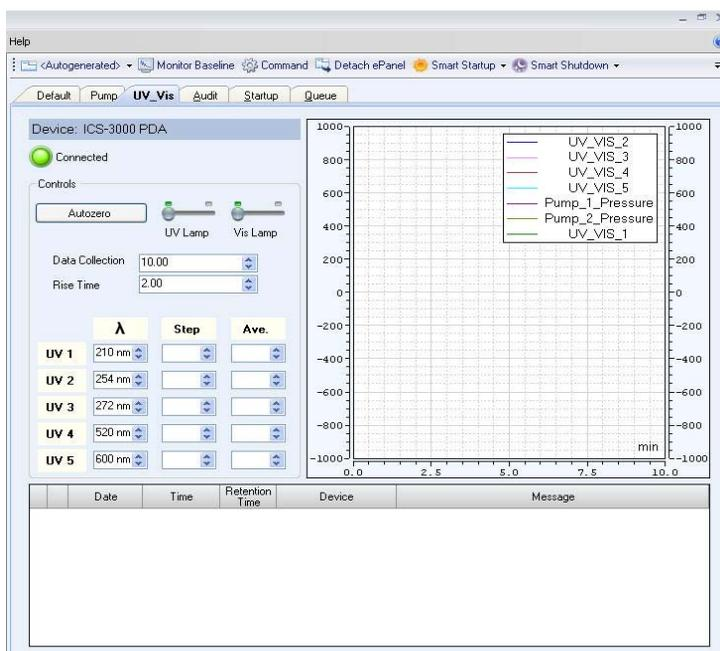
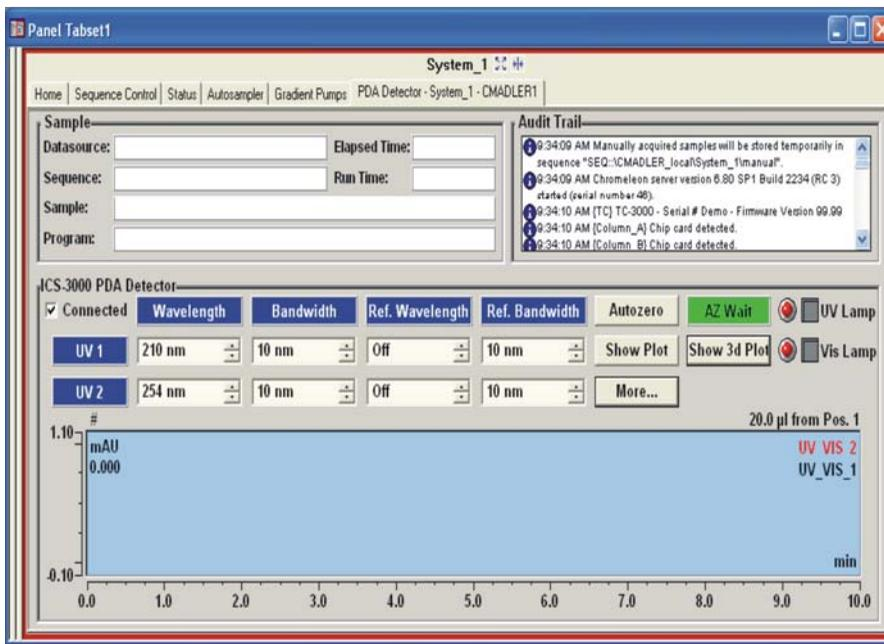

Figure 3-1. Example Dionex PDA ePanel in Chromeleon 7
Figure 3-2. Example Dionex PDA Control Panel in Chromeleon 6.8
- d. To display the detector ePanel, click the **UV_Vis** tab on the ePanel Set (see Figure 3-1).
- c. To display the Dionex PDA Control panel, select the **Dionex PDA** tab on the panel tabset (see Figure 3-1).
To turn on the lamps, click **UV Lamp** and **Vis Lamp** on the Chromeleon 7 ePanel (see Figure 3-1) or the Chromeleon 6.8 Control panel (see Figure 3-2).